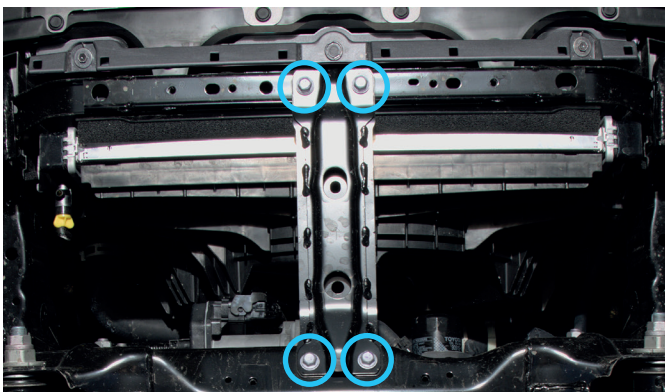

Fig. 5
5. Remove factory beam as shown in fig.5.